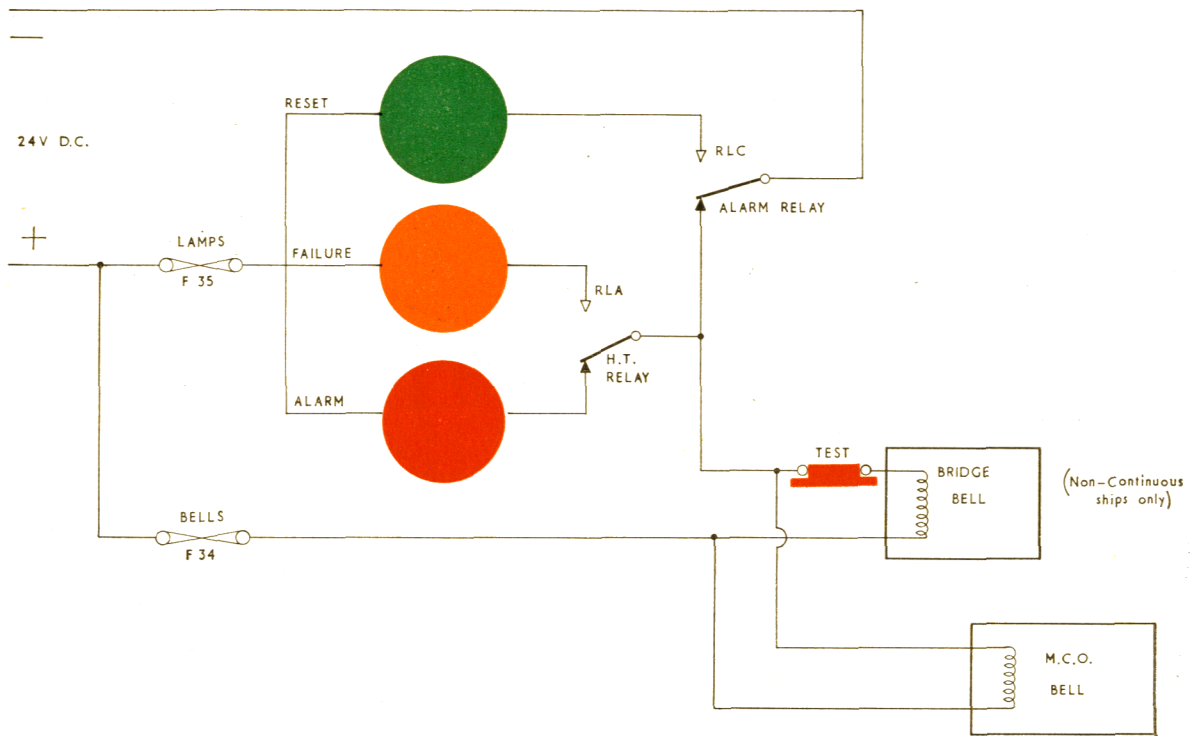
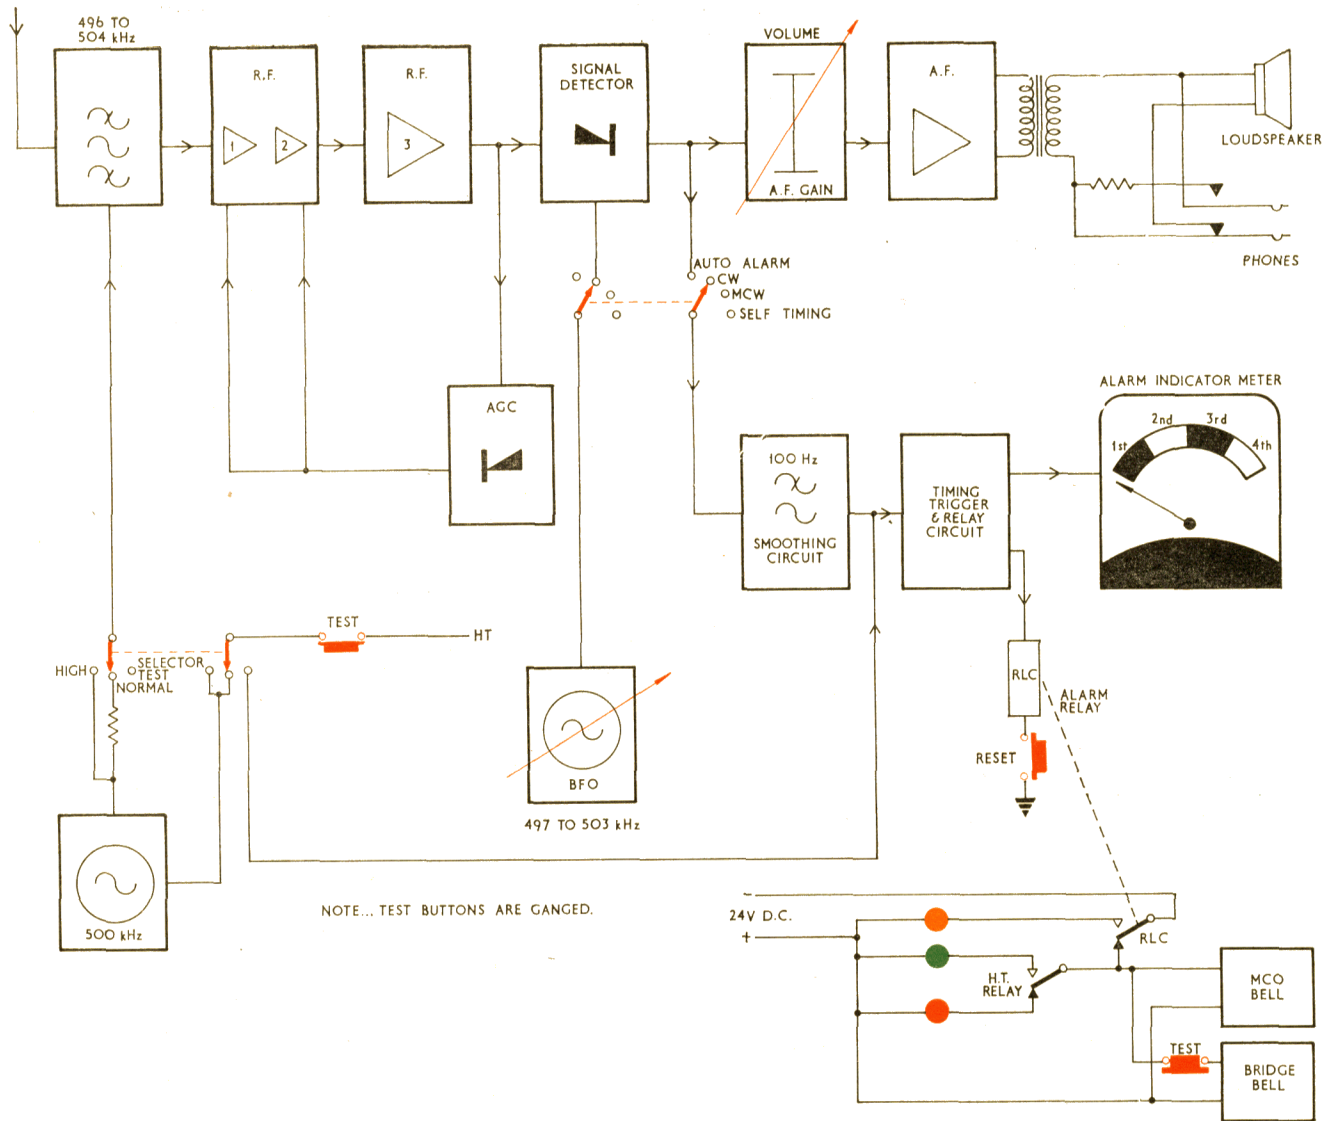

FIG. 2. SQA ALARM CIRCUIT IN THE ALARM CONDITION
FIG. 3. BLOCK DIAGRAM SQA
- e. ALARM AND LAMP CIRCUITS. The alarm and lamp circuits are supplied by an external 24V D.C. switched by the mains on/off switch. When the mains on/off switch is switched to OFF, the alarm relay will be in the 'down' position as shown in Fig. 2. The H.T. relay will be in the 'up' position. When mains is switched on, the 24V D.C. will immediately be available, the alarm bells will ring and the failure lamp will light. After approximately one minute, the H.T. relay will change to the 'down' position (Fig. 2), the failure lamp will be extinguished, the alarm lamp will light and the alarm bells will continue to ring. In this condition, the reset button (Fig. 3) may be pressed which will change the alarm relay to the 'up' position. The bells will cease to ring, the alarm lamp will be extinguished and the reset lamp will light. If the 24V D.C. can be switched externally, switching on can be delayed until after the reset button has been pressed to avoid the alarm bells ringing.